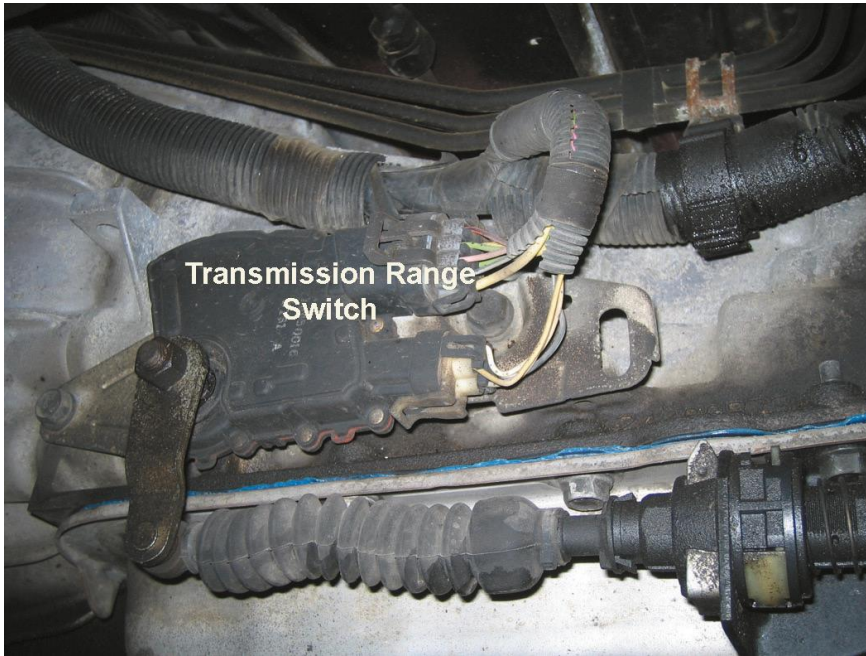

Figure 2. TR switch on the side of the transmission.
The transmission range (TR) switch (sensor) is used as an input to the PCM/TCM, which indicates the drive range requested by the driver. The transmission range switch is usually located on the outside of the case on the transmission/transaxle housing and attached to the shifter. As the gear range selector is moved, the TR switch can make a variety of switch connections for each gear range. These inputs allow the TCM to determine which gear range has been selected. Figure 2.